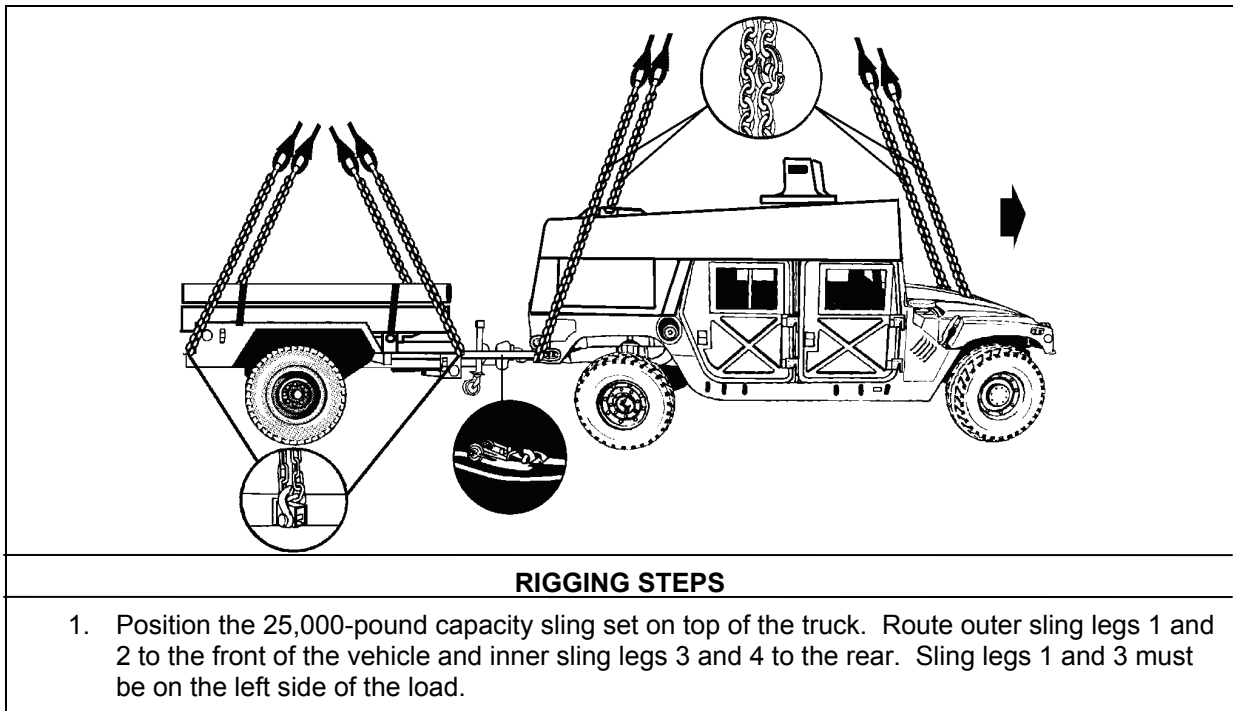

Figure 5-31. M1113 Truck, 1 1/4-Ton with Line Of Sight Anti-Tank Fire Unit and High Mobility Resupply Trailer
- **Rigging.** Rig the load according to the steps in Figure 5-31.